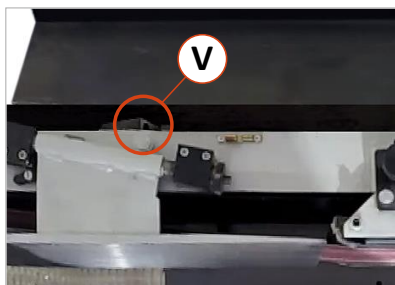
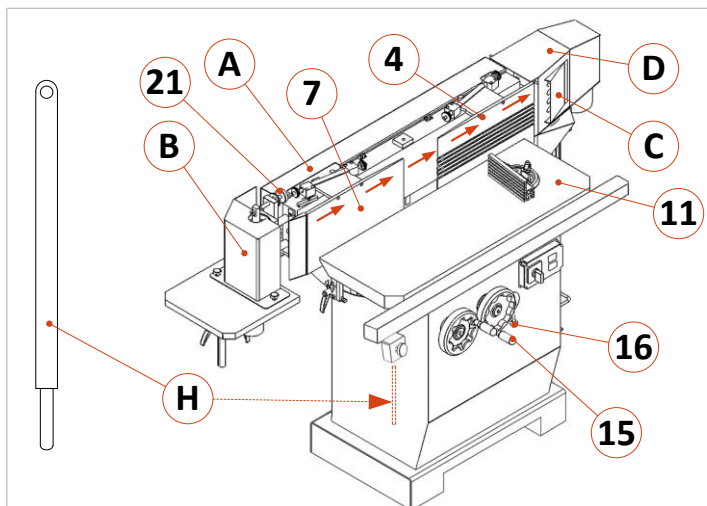

Figure 15: Lever receptacle (top view)
Figure 17: Mounting, tensioning and replacing of the sanding belt
In order to be able to mount, tension or replace the sanding belt, the tensioning lever (H) is required, which hangs on the left-hand side of the machine (see ⇒ Figure 17).
- Remove the sanding belt covers (A), (B), (C) and (D).
- Take the tensioning lever (H) and insert it into the receptacle (V), which is located on the rear (⇒ Figure 15).
- Release the sanding belt tension by swivelling the tensioning lever (H) to the left.
- Loosen clamping lever (16) and move the worktable (11) down via the handwheel (15) until the two veneer fences (7) and (4) can be folded open.
- Open the two veneer fences (7) and (4) so that they automatically engage in the upper position via the corresponding locking springs (S).
- Then insert the new sanding belt. **Important:** Pay attention to the correct running direction (see arrow direction in ⇒ Figure 17) → The running direction is indicated by arrows on the back of the sanding belt.